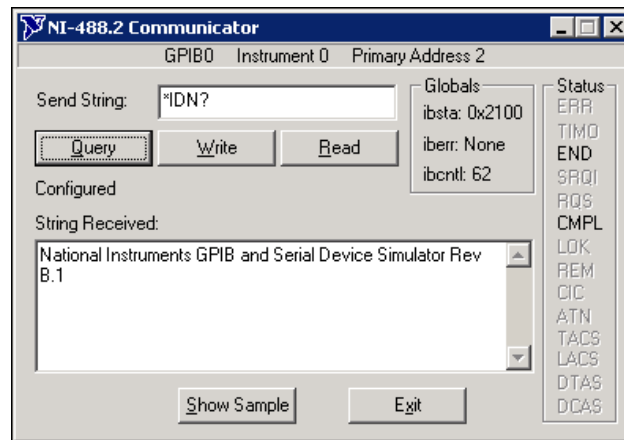

Figure 11.3
11. Type ***IDN?** in **Send String** and click the **Query** button. The instrument returns its make and model number in **String Received**. You can use this window (Figure 11.3) to debug instrument problems or to verify that specific commands work as described in the instrument documentation.